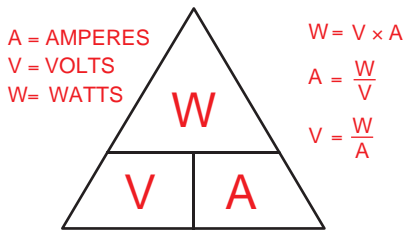
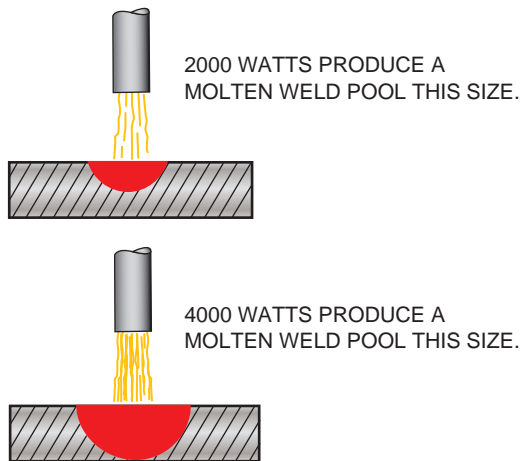

FIGURE 8-3 Ohm's Law.
FIGURE 8-4 The molten weld pool size depends on the energy (watts), the metal mass, and thermal conductivity.
or watts (W), are calculated by multiplying voltage (V) times amperes (A), **Figure 8-3**. Wattage is a measurement of the amount of electrical energy or power in the arc. The amount of watts being put into a weld per inch (cm) controls the width and depth of the weld bead, **Figure 8-4**.